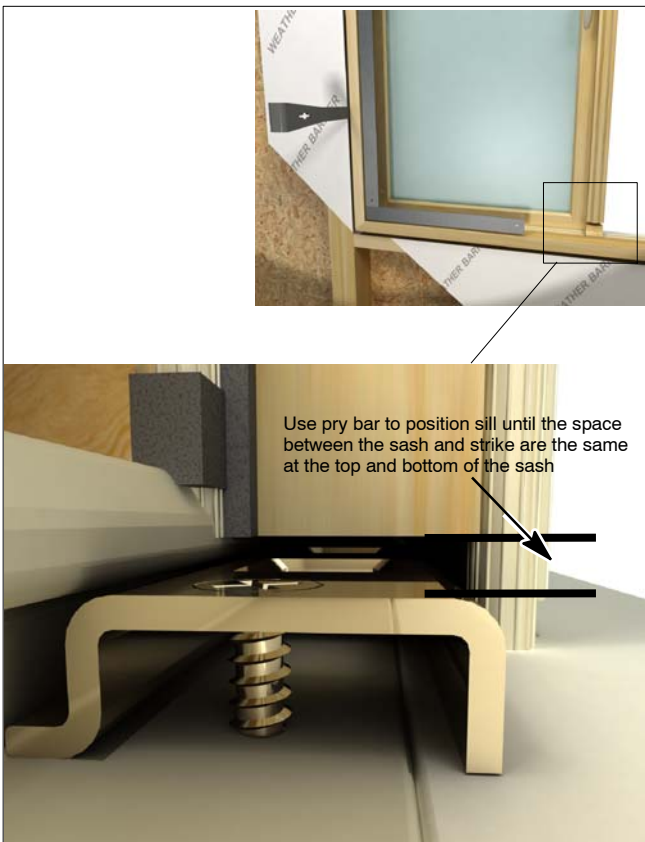

Figure 5: Position sill of the unit to center the sash between the top and bottom strikes
- Close the secondary sash. Use a pry bar to move the sill of the unit from side to side until the sash is exactly centered between the top and bottom strikes. Make sure that the distance from the sash and the strike is the same at the top and bottom of the sash. See figure 5.